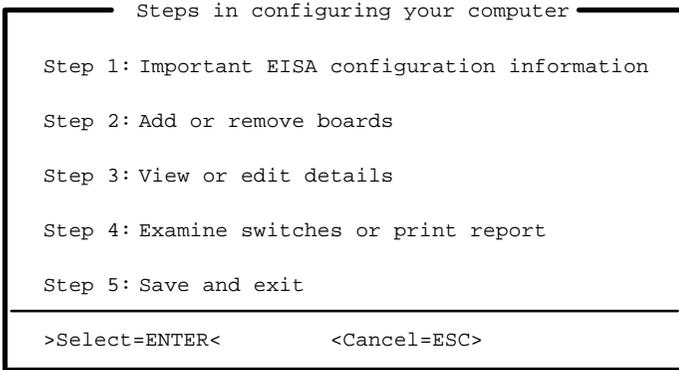

Figure 5-1 ECU Main Menu — Steps in Configuring Your Computer
3. A welcome screen appears. Press **Enter** to leave the Welcome screen and display the ECU main menu—Steps in Configuring Your Computer (see Figure 5-1).